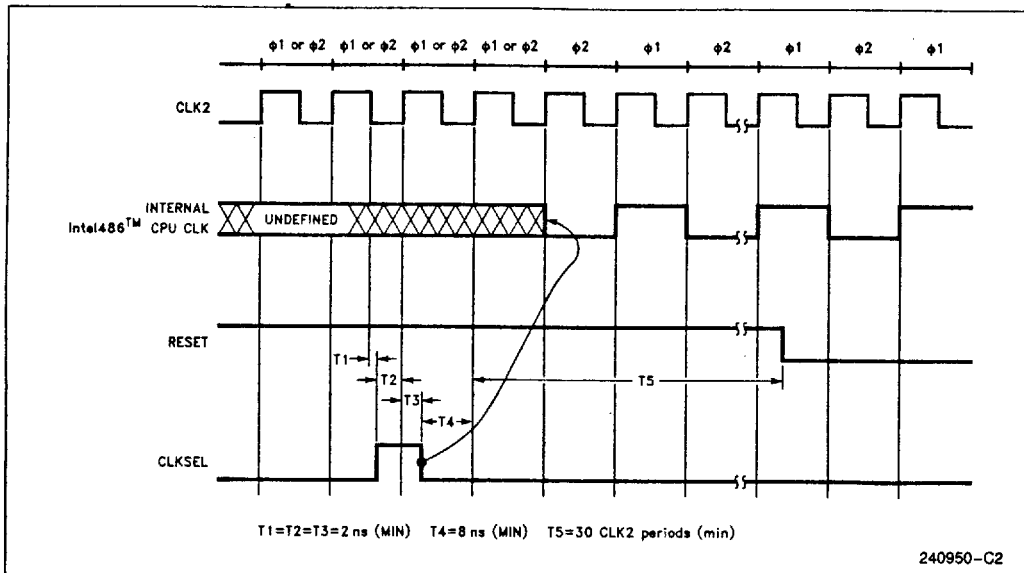

Figure 16.6. CLKSEL Timing Definition during Power-Up Reset
Figure 16.6 shows the detailed timing definition of this pulse. The pulse on CLKSEL pin is only required during power-up reset. During all other times including warm resets the CLKSEL pin should be driven low and must be free of spikes or glitches. After the power-up reset, the system must track the phase of CLK2 at all times including during warm resets so that the input/output signals can be sampled at the appropriate clock edge. The phase relationship is described in the next section.
1. Frequency can be changed at least 8 clocks after satisfying  $t_4$  (see Figure 16.6). The system can be started at a lower frequency and after satisfying the CLKSEL pulse specifications, it can be operated at the required speed.